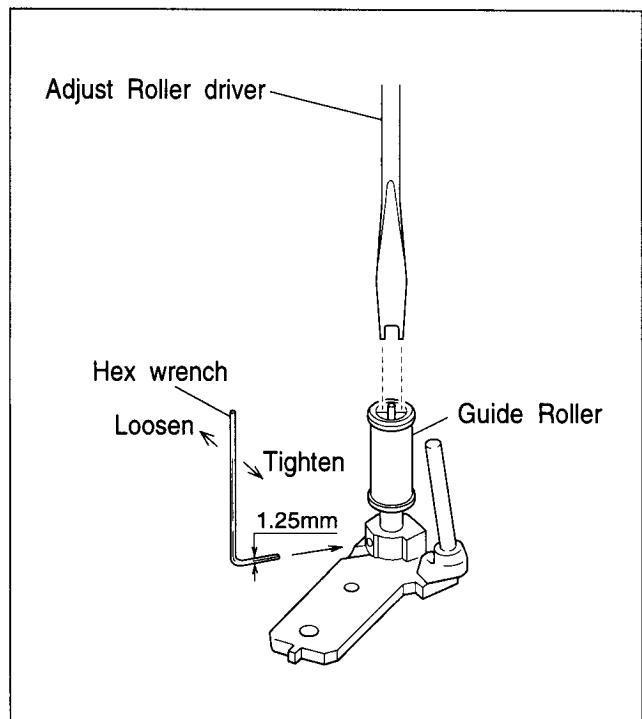
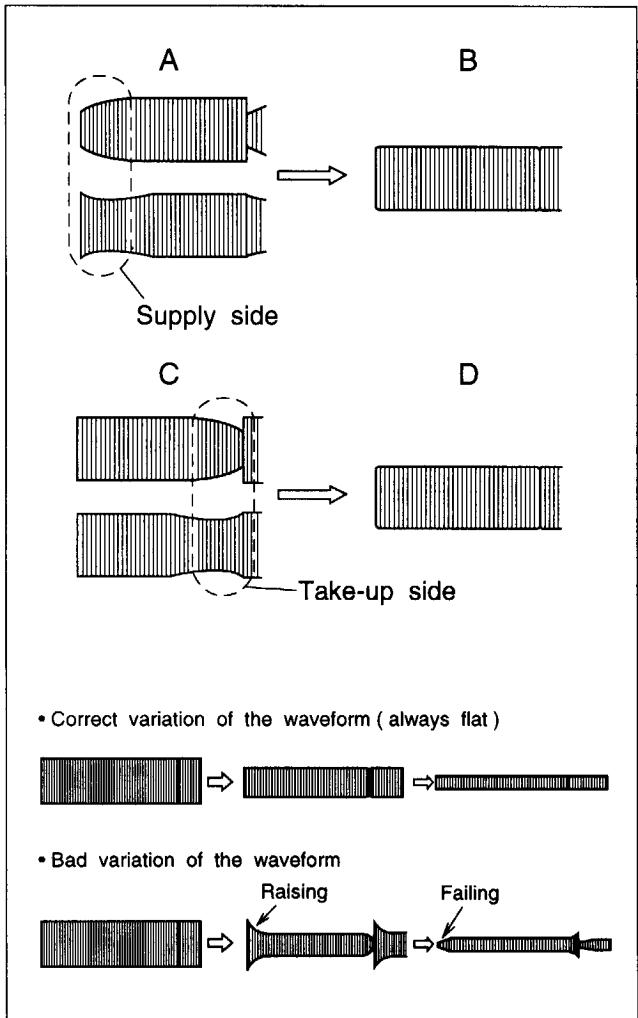
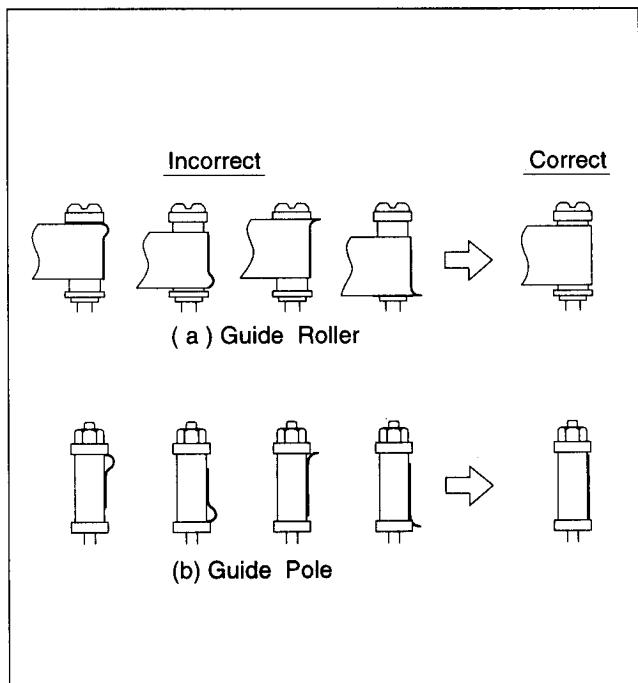

Fig. 2-7-2
Fig. 2-7-3
Fig. 2-7-4
- (6) When the FM waveform does not remain flat during this process,first slightly loosen the set screw located at the bottom of the guide rollers.Using the guide roller adjustment tool (Roller driver) ,adjust the supply and take-up guide rollers (refer to Fig.2-7-2) to obtain the correct waveform as indicated in Fig.2-7-3.
- (7) By pressing the tracking buttons several times,vary the FM waveform output from maximum to minimum (and vice versa) gradually, and confirm that the variation proceeds in flat shape, as shown in Fig.2-7-3.
- (8) Next playback the EP stairstep portion of the alignment tape [MHP-L] and adjust the tracking control from maximum to minimum the FM waveform,confirm that FM waveform variation is always flat.
- (9) Record the signal and play it back in both of the SP and EP mode,confirm that the FM waveform is flat in both mode.
- (10) After adjustments,tighten the set screw of the guide rollers.
- (11) Confirm that the tape wrinkling does not occur at the roller upper or lower limits as indicated in Fig.2-7-4.